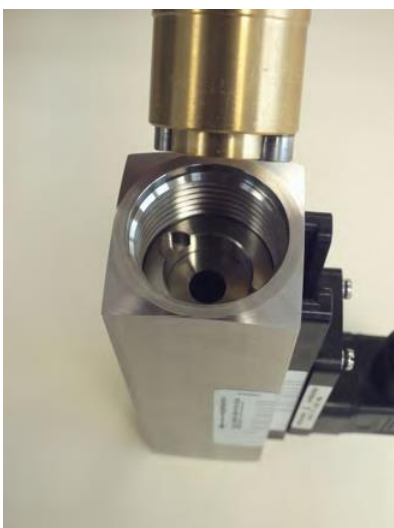

Fig. 50: Insert threaded ring insertion tool (inlet)
- 15. ►** Insert the threaded ring insertion tool into the device inlet (Fig. 50) and turn until it rests in the keyway of the threaded ring